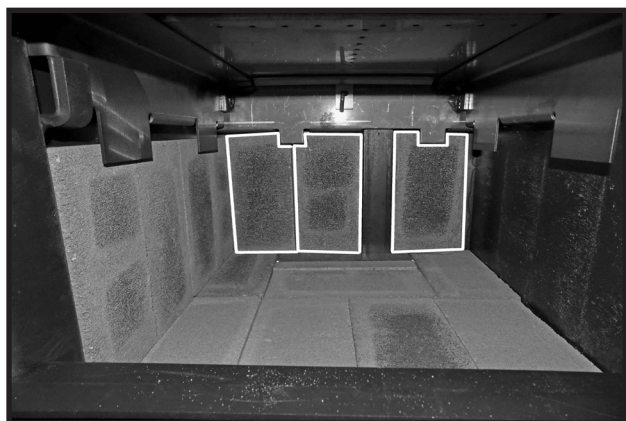

Figure 28: Rear wall bricks in place.
2. Place three bricks against the rear wall. Position the bricks behind the tabs and slide them in towards the center of the stove to eliminate any gaps that may appear(Figure 28).